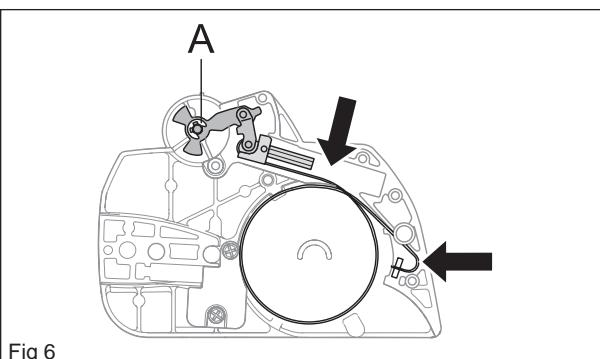

Fig 6
Locate the elbow joint and connected brake band in their recesses in the clutch cover. Lubricate the recess for the spring with grease. (see figure 6)
Secure the circlip (A) (see figure 6)